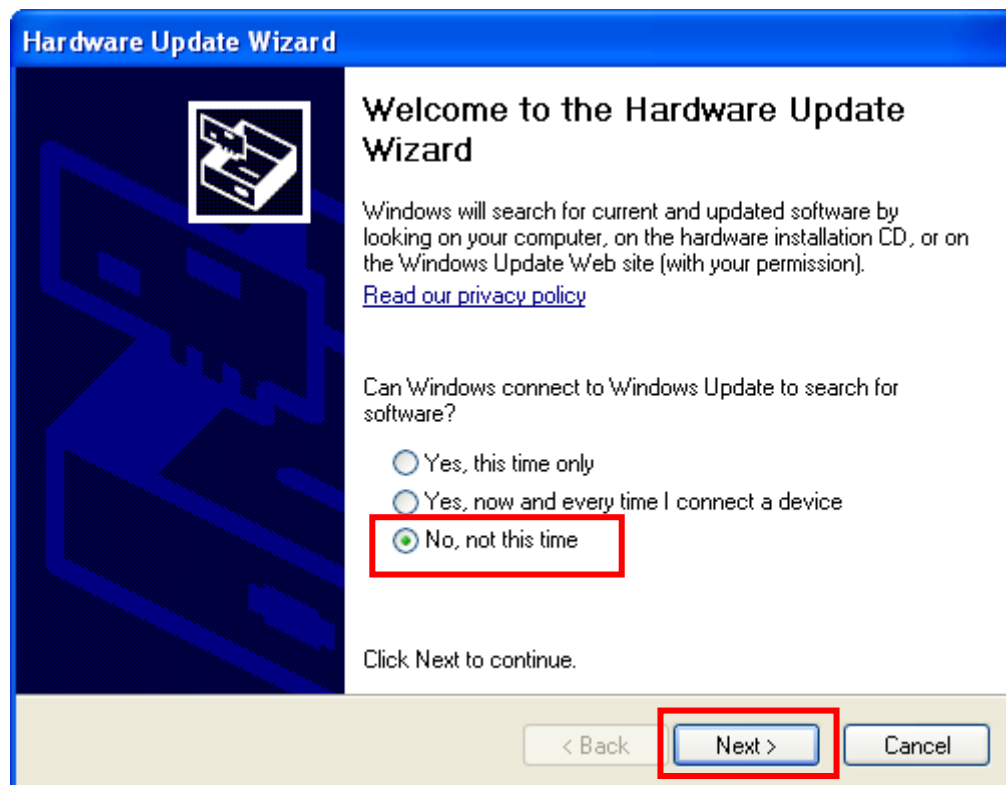
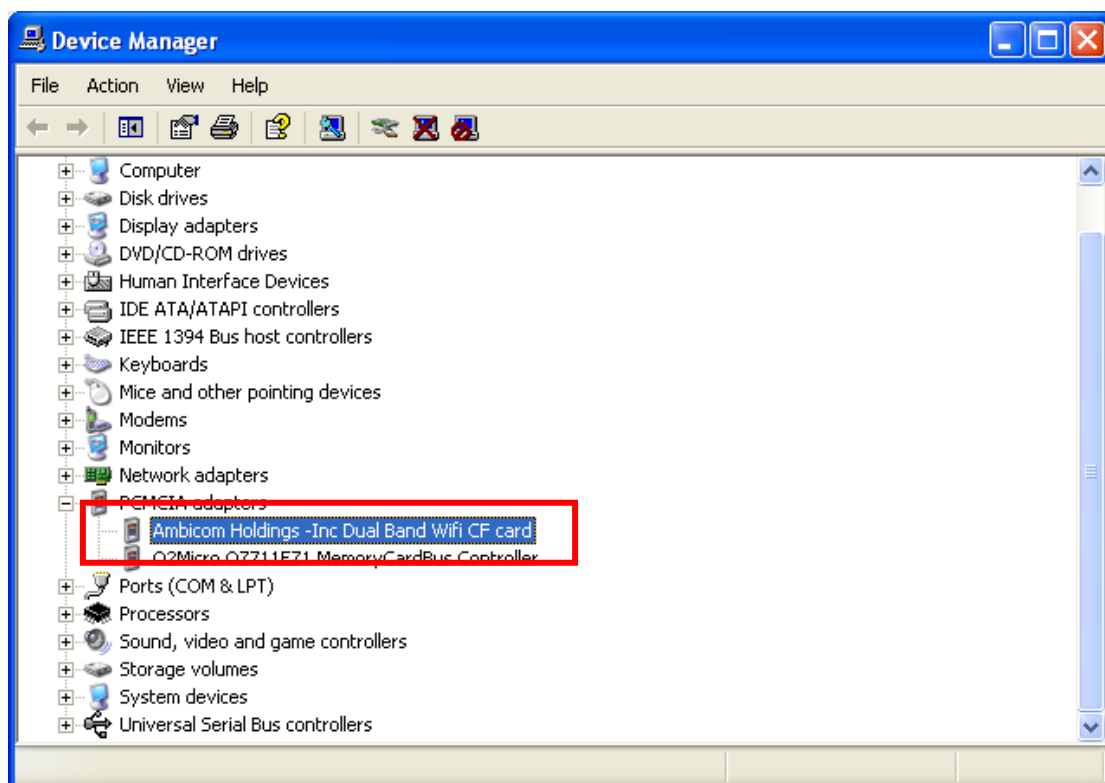

Figure 1
Figure 12
- c. Please refer the figure 1 to figure 12 and follow the instruction of the Wizard to complete the driver installation.